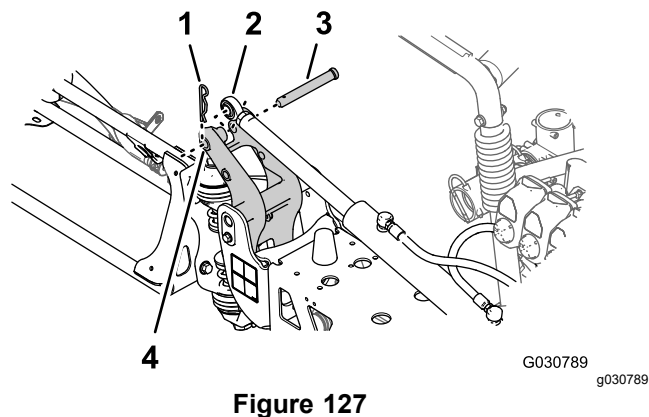

Figure 127
6. Align the rod end of the lift cylinder with the hole 25 mm (1 inch) in the horn of the pivot fitting (Figure 127).
7. Secure the lift cylinder to the pivot fitting with the clevis pin and hairpin (Figure 127) that you removed in step 2 of Removing the Lift Cylinders (page 25).